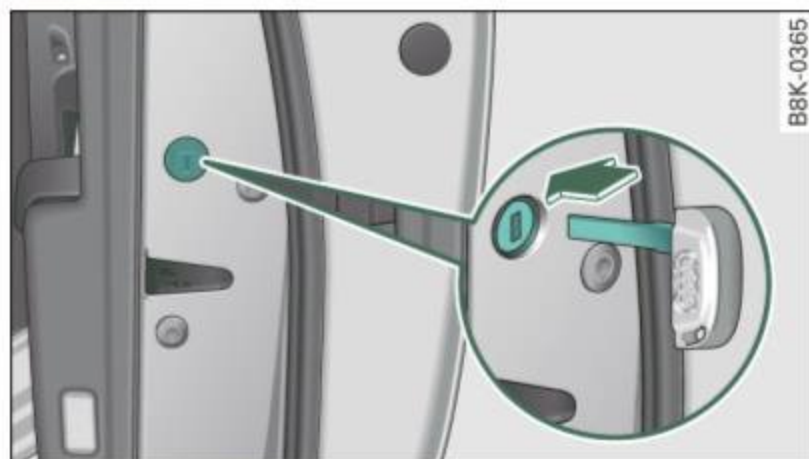

Fig. 38 Door: Emergency locking
- Pull the cover cap out of the opening ⇒ *fig. 38*.